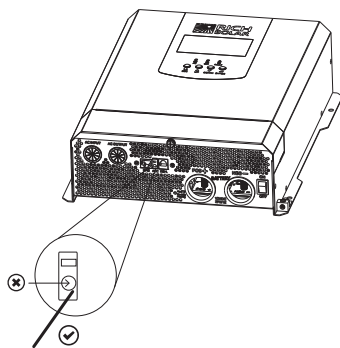

Figure 13 Ignition signal (ACC) input terminal
4. Locate the ACC input (ignition signal input) terminal. See Figure 13.